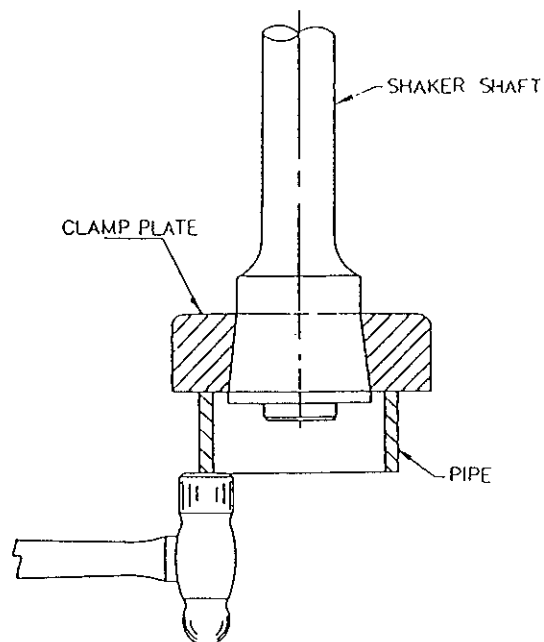

Figure 1
1. Before installing new vibrator shaft, loosen the shaker shaft clamp plates from the shaker shafts. Do this by using a suitable spacer, pipe, etc., that will fit over the end of the shaker shaft and tap with hammer. Loosening the clamp plates will prevent misalignment and binding upon reassembly. (See Figure 1.)
9. Shafts are grease packed at factory. Replenish grease after four (4) hours running according to greasing recommendations.
3. Before installing new vibrator shaft, loosen the shaker shaft clamp plates from the shaker shafts. Do this by using a suitable spacer, pipe, etc., that will fit over the end of the shaker shaft and tap with hammer. Loosening the clamp plates will prevent misalignment and binding upon reassembly. (See Figure 1.)